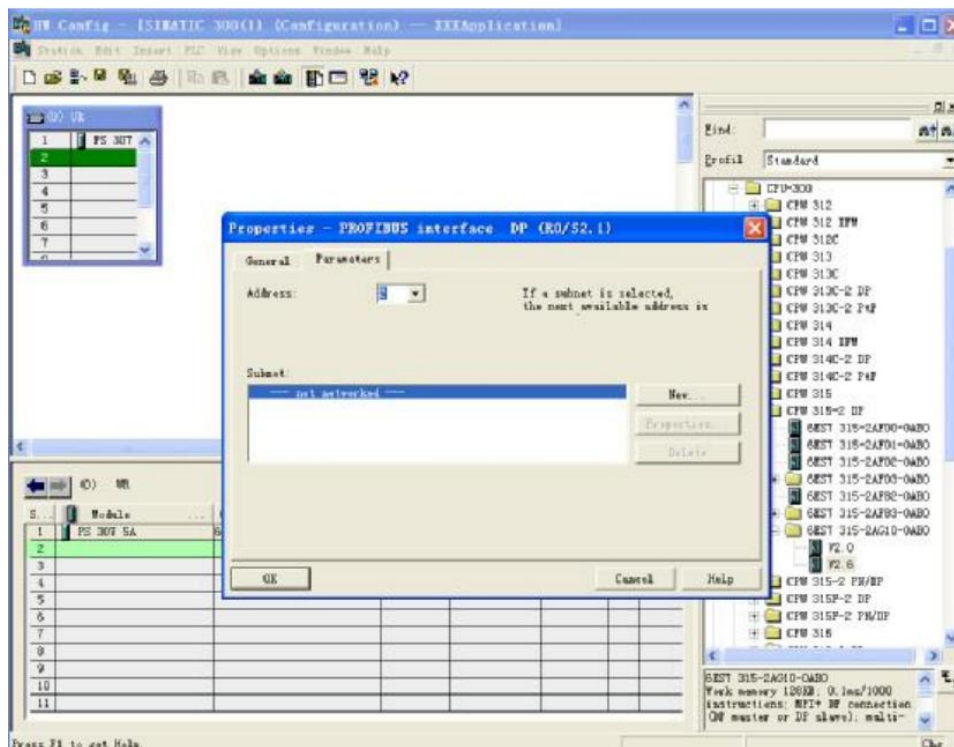

Figure 8
(9) Configure the CPU: Select the rack UR2 slot first, then double-click the corresponding CPU model from Hardware Catalog\SIMATIC 300\CPU-300\CPU 315-2 DP\ select 6ES7 315-2AG10-0AB0 V2.6 in this example, as shown in Figure 8, and then click OK.